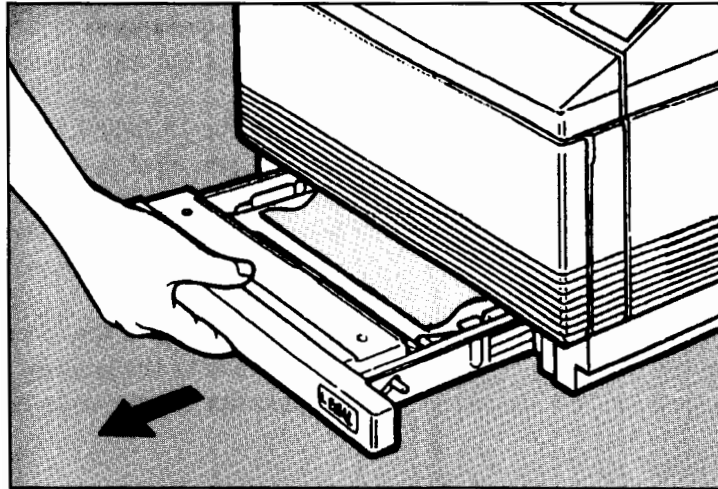

Figure 9-3. Clearing the Paper Tray
3. If paper is jammed in the Optional Lower Cassette, you need to remove the paper tray to clear the jammed paper (see figures 9-3 and 9-4).